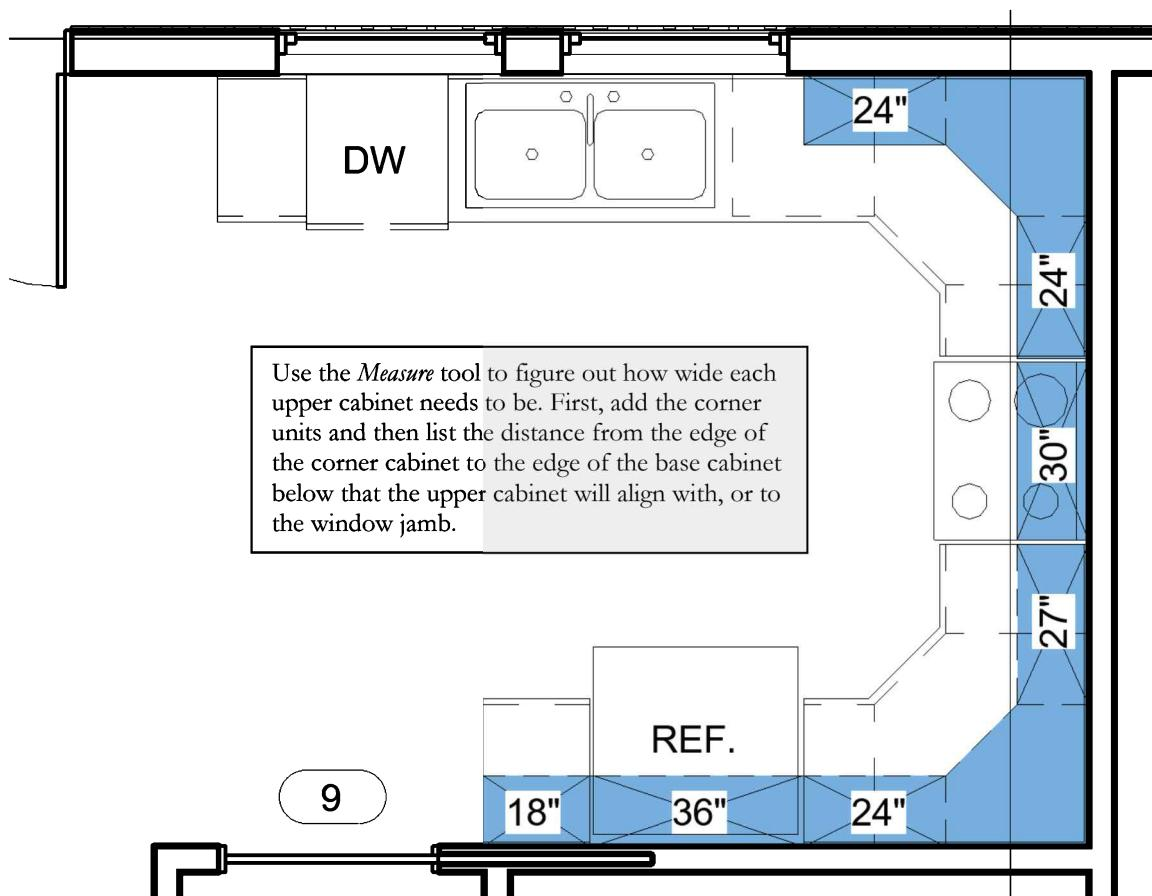

FIGURE 12-2.5 First Floor plan view: upper cabinets added (shade and Xs added for clarity in this image)
9. Using the *Component* tool, add the upper cabinets as shown in **Figure 12-2.5**: